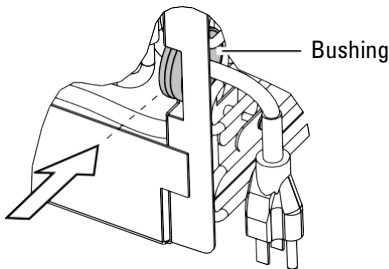

Figure 11: Secure AC Power Cord (Full length of line cord not depicted)
17. Route the AC power cord through the refrigeration module and secure it in place with the bushing (Figure 11).